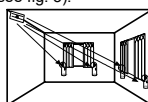

Fig. 5
- Corner Mounted** (choose corner opposite glass to be protected see Fig. 5).